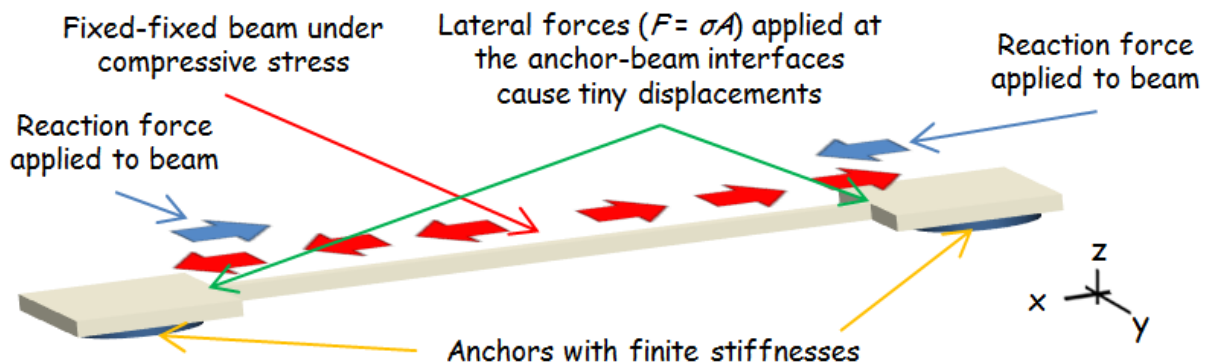

Figure 2. Illustration of a fixed-fixed beam under compressive stress.
- (e) Suppose now that the anchors are not infinitely stiff and move a very tiny amount ($\Delta x < 10\text{ nm}$) when x-directed forces are applied by the compressed beam as shown in Figure 2. Considering the nonzero compliance of the anchors, explain why the estimated range of compressive stress you found in part (d) is either an overestimate or an underestimate of the true compressive stress.